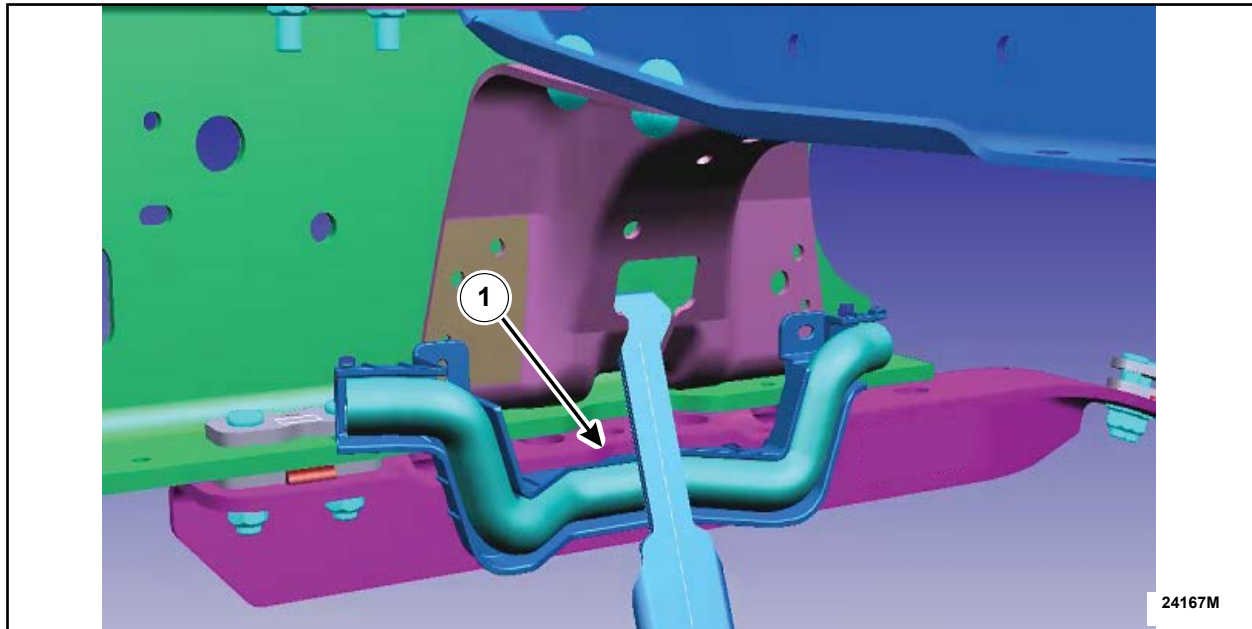

FIGURE 27
5. Reattach the shield to the harness, in the same locations as they were removed from in Step 3, using seven (7) of the similar supplied tie straps.
6. Once the frame rail bracket has been installed, position the middle of the harness shield under the frame rail bracket as shown in Figure 27. Then, using two (2) of the supplied tie straps, secure the harness shield in the same location as the push pins were removed from in Step 1.